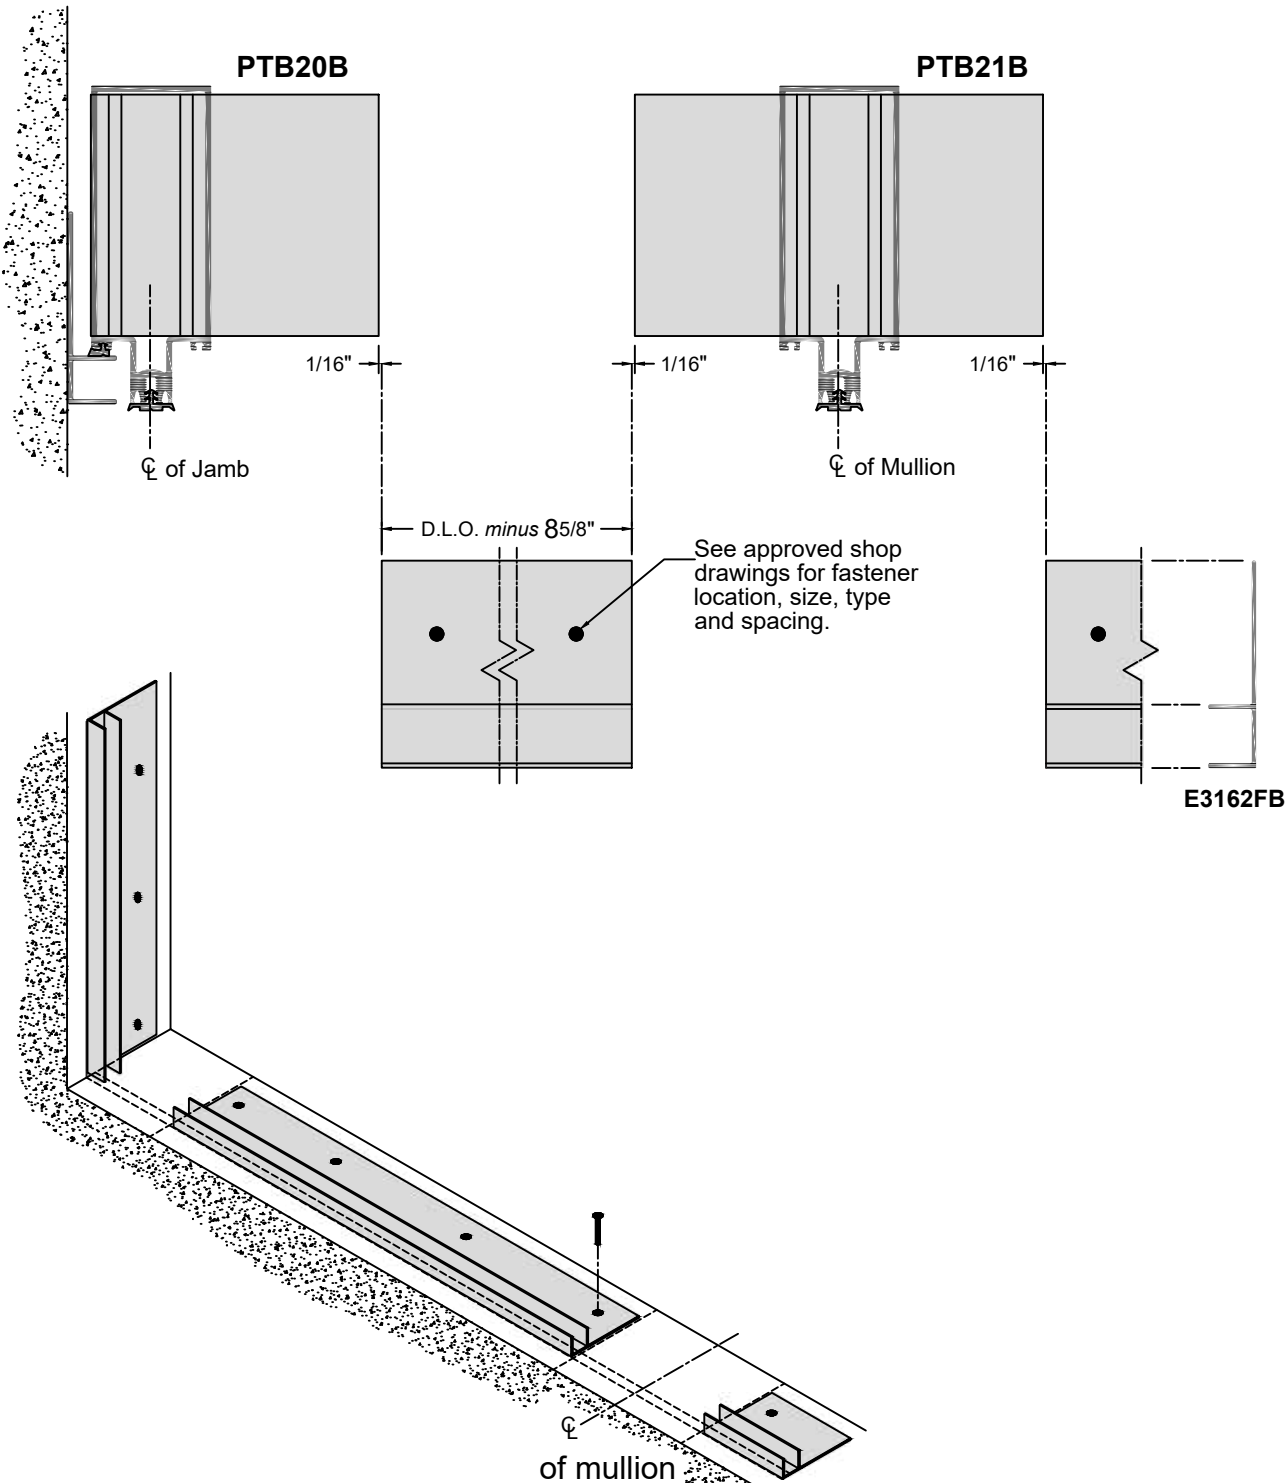

Fig. 24.1
- B. Cut and fabricate to fit between 'T' and 'F' vertical anchors as shown in Fig. 24.1.